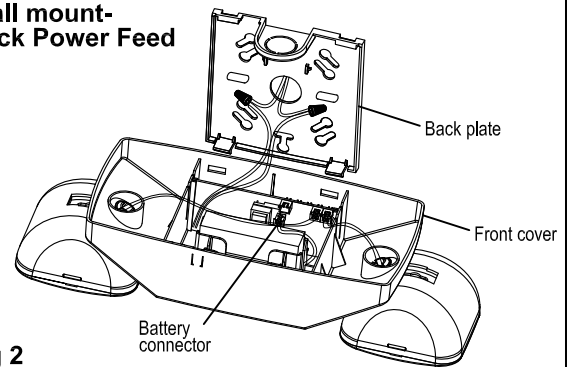

Fig 2
Wall Mount - Back Power Feed (see Fig 2)
6. Connect battery connector.(see Fig 2).